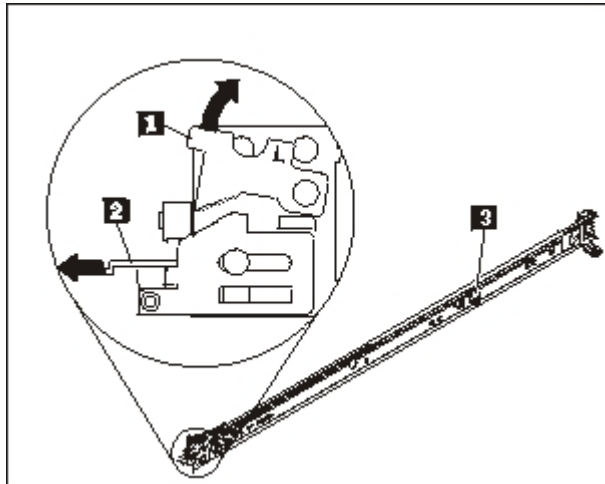

Figure 6. View of the slide rails
1. Open the front slide rail latches, as shown in Figure 6 on page 16.